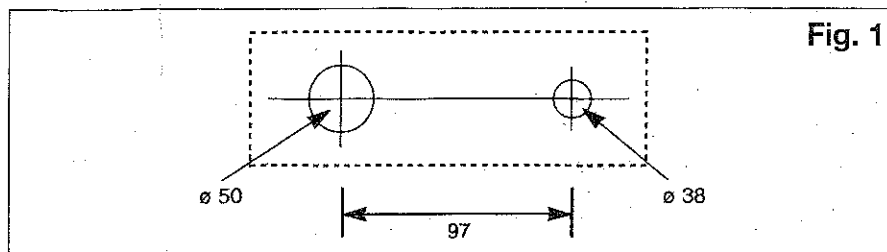

Fig. 1
2) The Front cover or door of the enclosure should be drilled to allow the rotary handle and lock barrel to protrude when the door/cover is closed. Allow a 50mm dia. hole centre to the rotary handle shaft. To the right of this on a 97mm centre a 38mm dia. hole should be allowed for the Castell lock (Fig. 1).